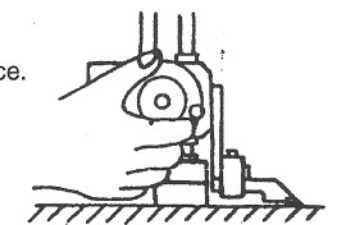

Fig. 3
- b. Fine adjustment: Turn the large handwheel lightly, contact the scriber to the reference face. Fig. 3.